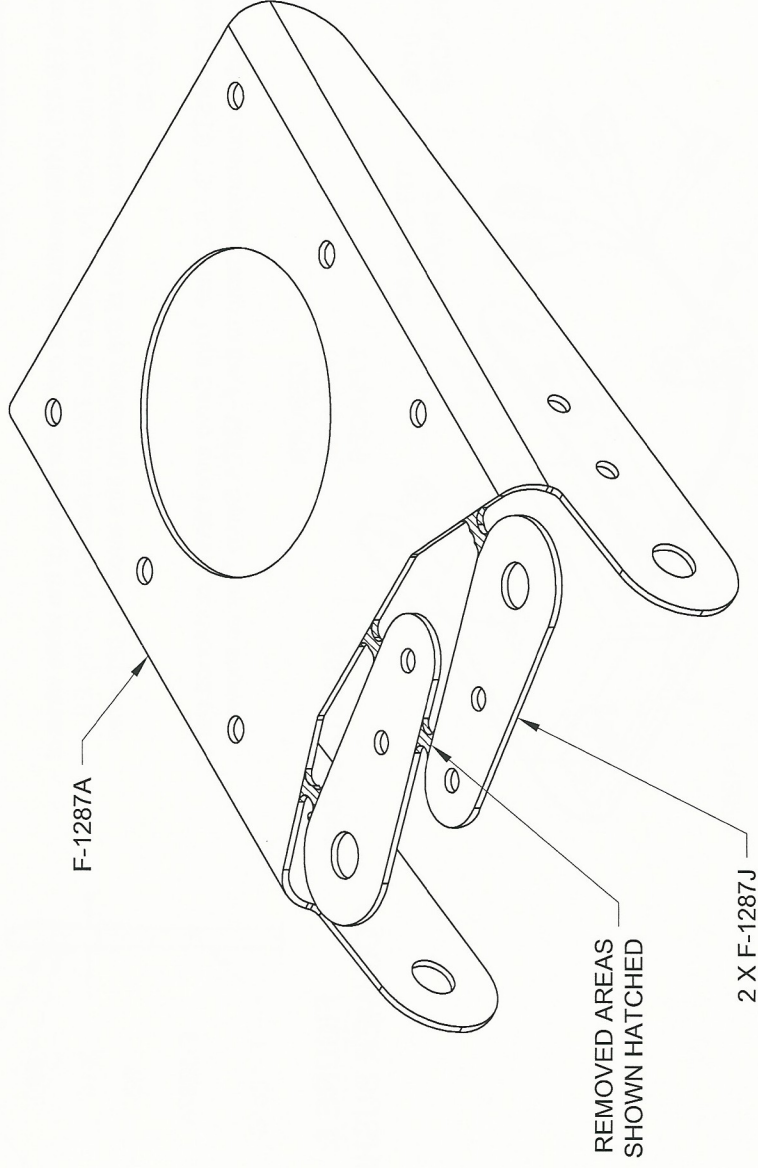

FIGURE 2:
Step 2: Separate the F-1287J Doublers from the F-1287A Servo Tray by removing the material called out in Figure 2. Deburr parts.